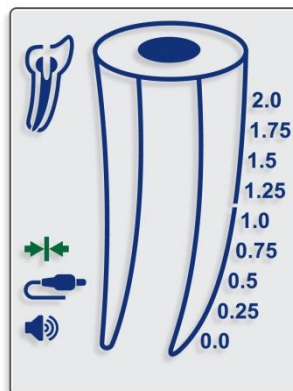

Fig. 3
- 5.3.2. “Connection” icon ➡⚡⚡⚡➡ should appear on the display, indicating proper connection (Fig. 3).